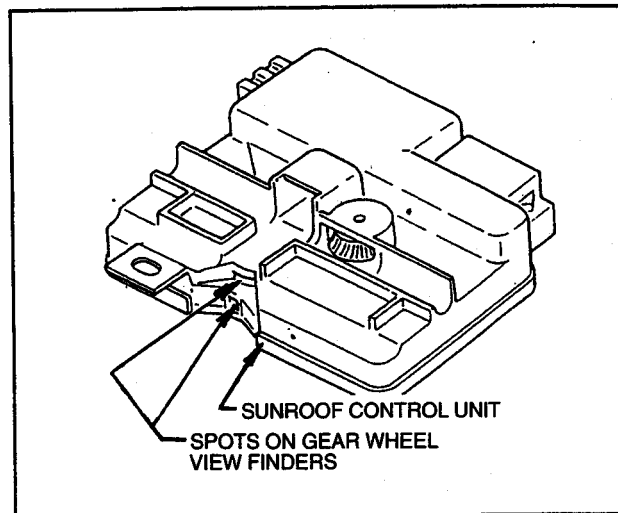

Fig. 10 - Checking alignment of Spots on Gear Wheel.
Inspect the new S.C.U. for proper alignment of spots on gear wheel Fig. 10.
9. To align the two spots in the view finders, turn the exposed black cable gear mounted in top centre of the S.C.U. When each spot appears directly in line with the other, top to bottom, stop (fig. 10).